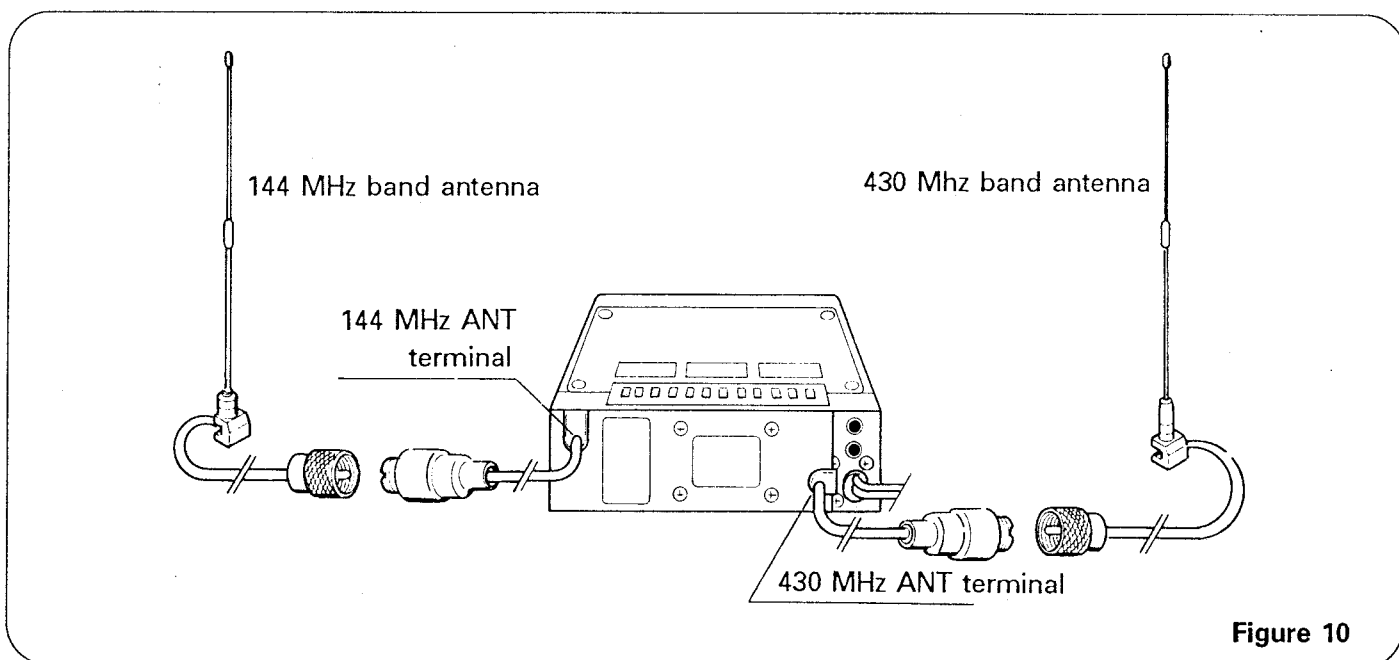

Figure 10
① When connecting to independent antenna (Figure 10)
- ① Connect to the 144 MHz band coaxial cable of this unit its corresponding coaxial cable running from the 144 MHz band antenna.
- ② Connect to the 430 MHz band coaxial cable of this unit its corresponding coaxial cable running from the 430 MHz band antenna.